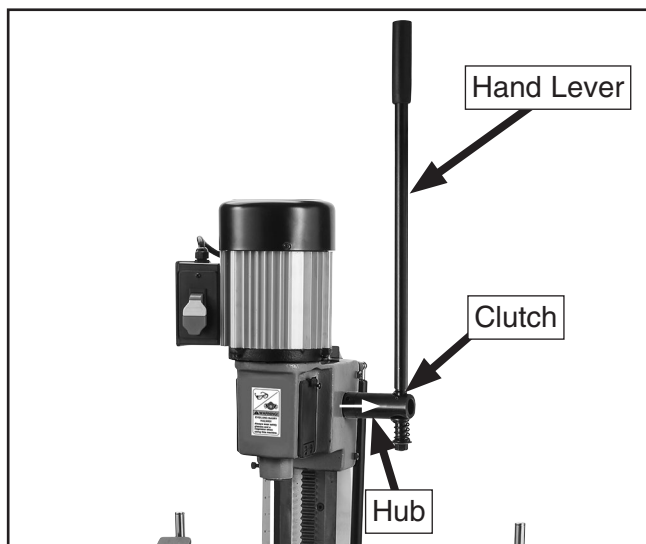

Figure 12. Location of hand lever components.
3. When hand lever clutch separates from hub (see **Figure 12**), rotate hand lever to desired position.